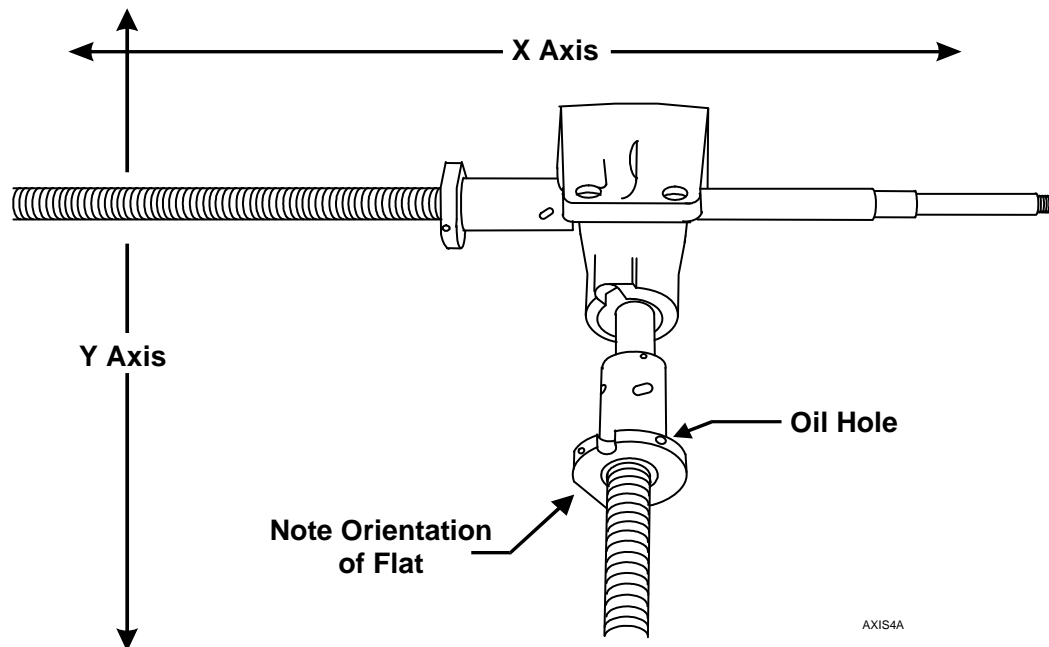

Figure 3-2, Ball Nut Orientation Prior to Installation
2. With the yoke properly oriented, insert the X ballscrew into the yoke. Make sure that the ball nut flange is on the left side of the yoke and the machined flat is at the 12-o'clock position. Refer to **Figure 3-2**.